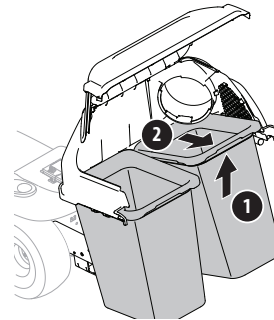

Figure 27
3. Remove the grass bags by lifting these up (1) in Figure 27 and moving the bags away from the bag support assembly (2).